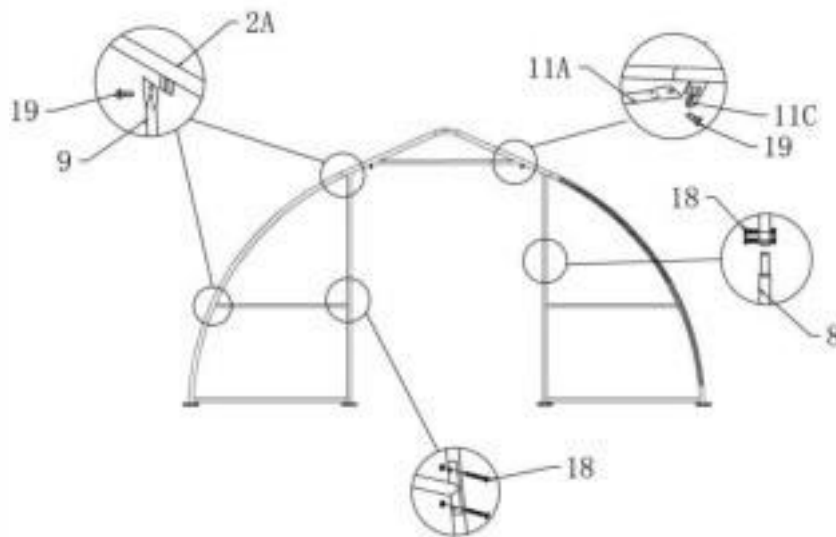

Figure 6
1. Install the front and back door frame as Figure 6.